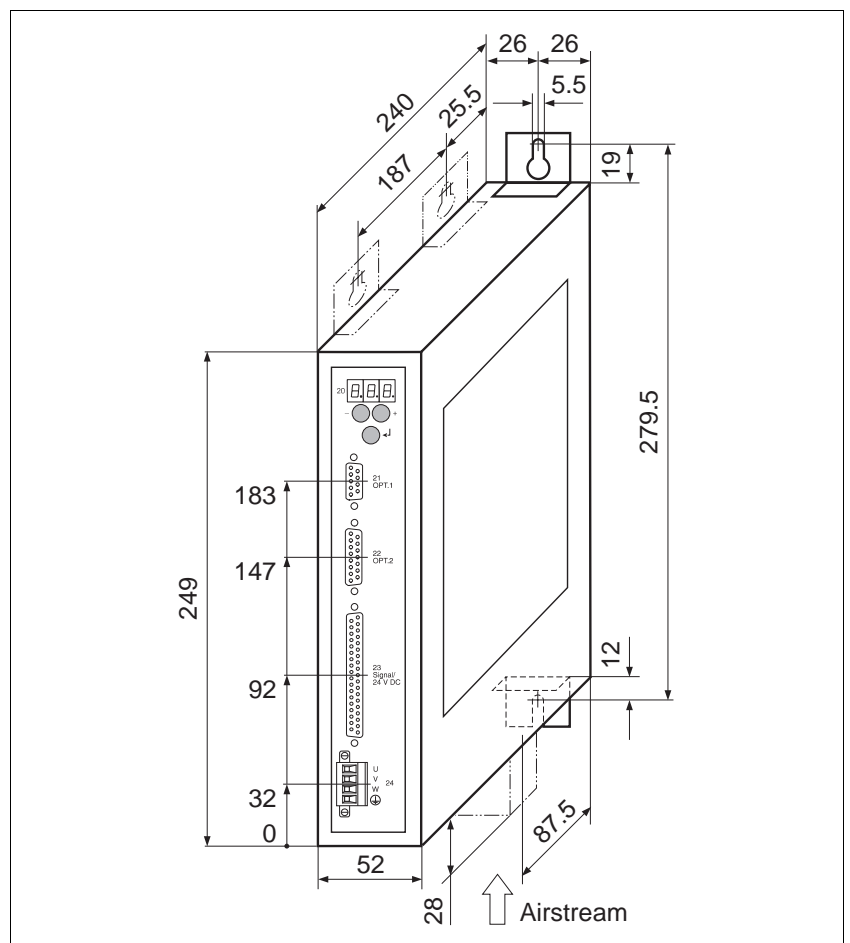

Fig. 2-2 Installation
You can use the mounting brackets to install the unit on the rear or on the left (fig. 2-2).
**Accessory fan** The fan on the WDP3-018 unit must be mounted at the bottom. The airstream must pass through the unit from bottom up (see fig. 2-2). The arrow on the fan indicates the direction of the airstream if the fan is connected correctly (red = 24 VDC, black = 24 VGND). Fasten the fan with four screws at the bottom of the unit after having cut out the grille (see chapter 6.2.1). Connect the fan to the external 24 VDC voltage supply.